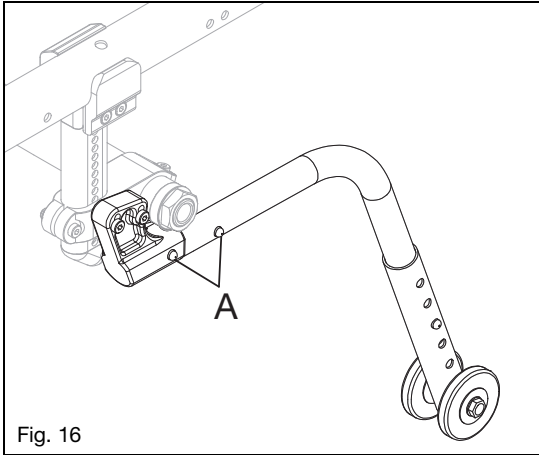

Fig. 16
How to Install the Standard Anti-Tips (Fig. 16)
1. Press the rear anti-tip release pin (Fig. 16:A) on the anti-tip tube so both the release pins are drawn inside.